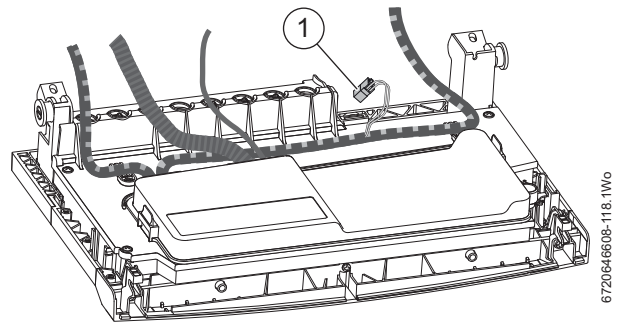

Fig. 26 Unused connector
Refer to Figure 26. The connector (1) in the wiring harness is provided for the installation of the Domestic Hot Water Pre-Heat accessory - 7 716 192 735